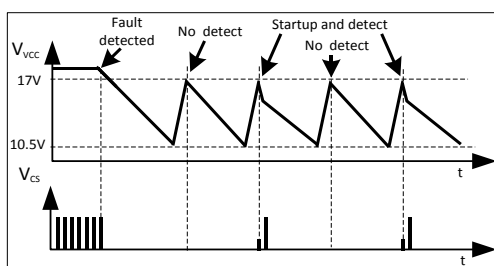

Figure 30 Odd skip auto restart waveform
Odd skip non switch auto restart mode is similar to odd skip auto restart mode except the start up switching pulses are also suppressed at the even number of the restart cycle. The detection of fault still remains at the even number of the restart cycle. When the fault is removed, the IC will resume to normal operation at the even number of the restart cycle (Figure 30).
VCC OVP (1) condition is when V_{VCC} voltage is $> 20.5\text{ V}$, V_{FBB} voltage is $> 4.5\text{ V}$ and during soft start period, the IC enters into odd skip Auto Restart Mode. This condition likely happens during start up at open loop fault (Figure 30).
Vcc OVP (2) condition is when V_{VCC} voltage is $> 25.5\text{ V}$, the IC enters into odd skip Auto Restart Mode (Figure 30).
In case of Overload or Open Loop, the V_{FBB} voltage exceeds 4.5 V which will be observed by comparator C4. Then the built-in blanking time counter starts to count. When it reaches 20 ms, the extended blanking time counter CT1 is activated. The switch S2 is turned on and the voltage at the BBA pin will be discharged through 500 Ω resistor. When it drops to 0.9 V, the switch S2 is turned off and the Switch S1 is turned on. Then a constant current source I_{chg_EB} will start to charge up BBA pin. When the voltage hits 4.5 V which is monitored by comparator C11, the switch S1 is turned off and the count will increase by 1. Then the switch S2 will turn on again and the voltage will drop to 0.9 V and rise to 4.5 V again. The count will then increase by 1 again. When the total count reaches 256, the counter CT1 will stop and it will release a high output signal. When both the input signals at AND gate G5 is high, the odd skip Auto Restart Mode is activated after the 30 μ s spike blanking time (Figure 30).